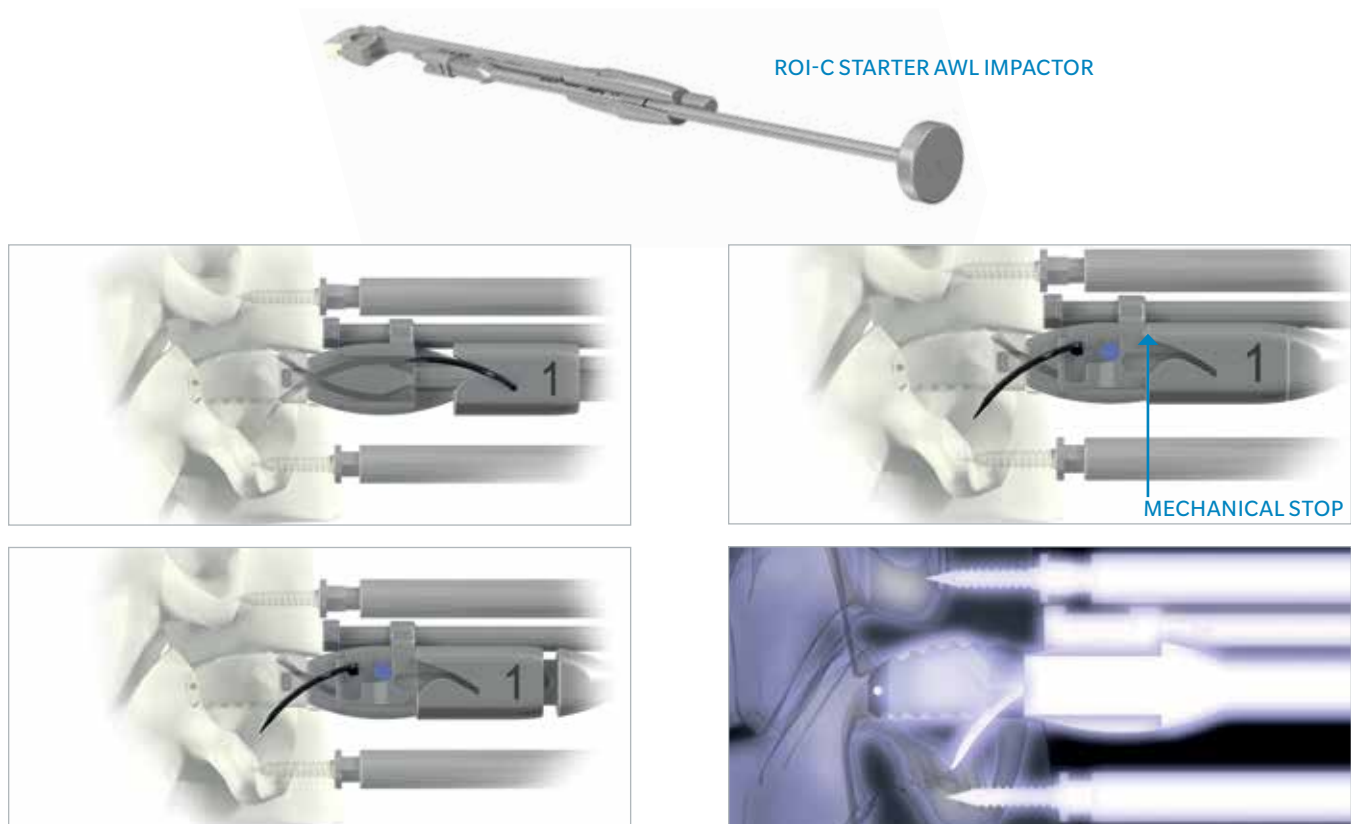

Figure 9c
- Insert the shaft of the starter awl impactor into the ROI-C implant holder's groove. Orient the #1 on the encasement so that it is visible, opposite of the body of the ROI-C implant holder (**Figure 9c**). ROI-C starter awls are never to be used with ROI-C plate impactors (MC9092R & MC9093R).